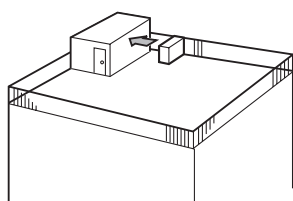

Fig. 3-3
- Face the air outlet towards the nearest available wall about 50 cm away from the wall. (Fig. 3-3)